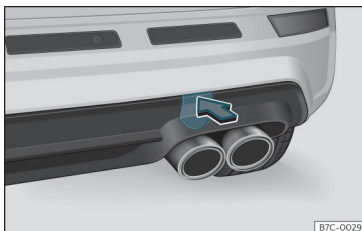

Fig. 43 On the right side of the rear bumper: remove the cover.
The housing of the screw towing eye is on the right side of the rear bumper behind a lid >>> **Fig. 43**.
- Press the upper side of the lid >>> **Fig. 43** to unclip it.